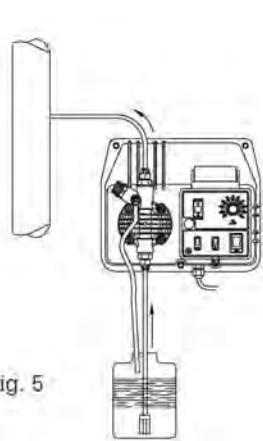
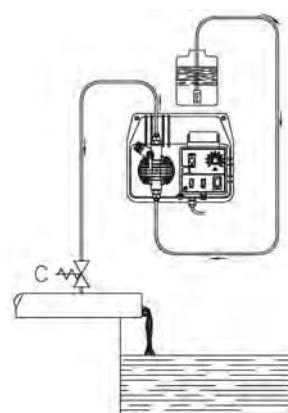

Fig. 5
Fig. 6
c. Locate the pump in position as shown in fig. 5 taking into account that it can be located over or under the liquid level within a maximum difference of 2 meters. The injection point must always be located higher than the liquid being injected. Do not install the pump directly on the tank as some additives produce vapour which may damage the equipment. For correct installation see fig.12. If the plant being treated operates at atmospheric pressure (free discharge additive) and the additive tank must be placed higher than the injection point (Fig. 6), check periodically that the injection valve is operating correctly, as excessive wear could cause additive injection by liquid loss (even when the plant is not operating). If the problem persists, insert a correctly calibrated **counter pressure valve C** between the dosing pump and the injection point (Fig. 6). For liquids that give off aggressive exhalations, do not install the pump over the tank unless the tank is hermetically sealed.